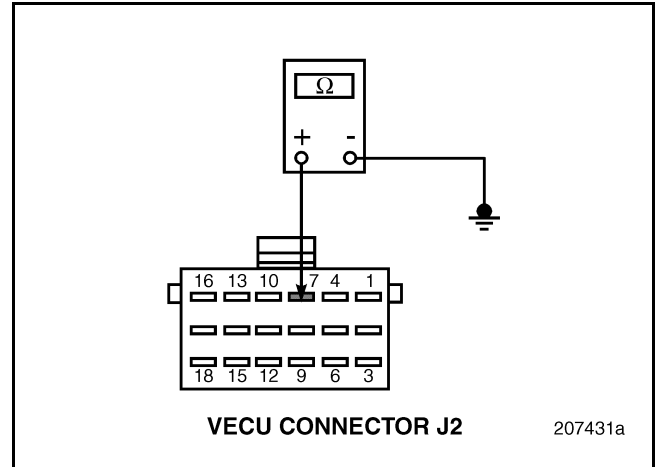

Figure 349
2. Disconnect the Exhaust Temperature (ET) Sensor connector.
4. Check for continuity between Vehicle Electronic Control Unit (VECU) connector J2 pin 7 and a good ground (see Figure 349).